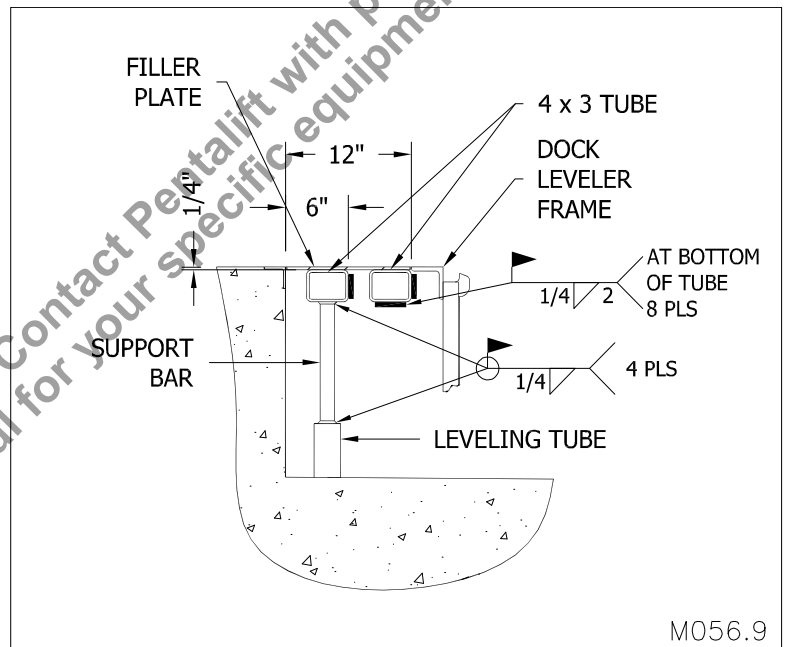

Figure 22: Welding the 4 X 3 Rectangular Tubing to the Curb Angles
4. ___ Slip the levelling tubes over the support bars and lightly tack in place so that it does not fall off while inverting the rectangular tube as indicated in "Figure 22: Welding the 4 X 3 Rectangular Tubing to the Curb Angles" on page 17.
5. ___ Position the 4 X 3 inch rectangular tubes as indicated in "Figure 22: Welding the 4 X 3 Rectangular Tubing to the Curb Angles" on page 17. Make sure the top surface of the rectangular tube is $\frac{1}{4}$ " below the top surface of the curb angle. This will allow the filler plate to be welded flush to the top surface of the curb angle.
6. ___ Weld the ends of the rectangular tubing to the side curb angle as indicated in "Figure 22: Welding the 4 X 3 Rectangular Tubing to the Curb Angles" on page 17. Add vertical welds at the ends of the tube between tube surface and side curb angle surface.
8. ___ Weld the levelling tubes to the support bars using full fillet welds as indicated in "Figure 22: Welding the 4 X 3 Rectangular Tubing to the Curb Angles" on page 17.